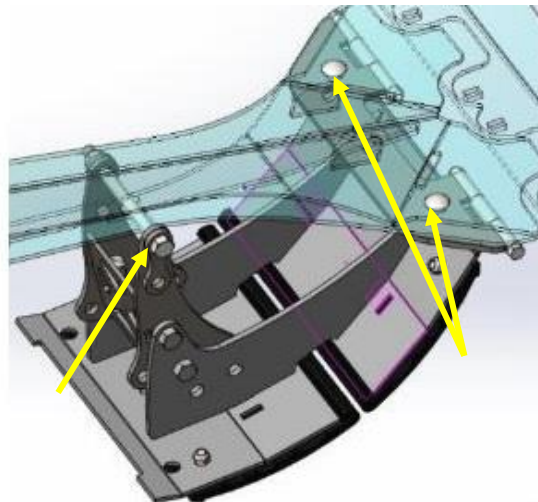

Figure 300
bolted to each strut in the front and a bolt in the rear adjusts the height of the shoe. Figure 300
3. The front retaining bolts are then removed to allow the skid shoe to be removed. Figure 300